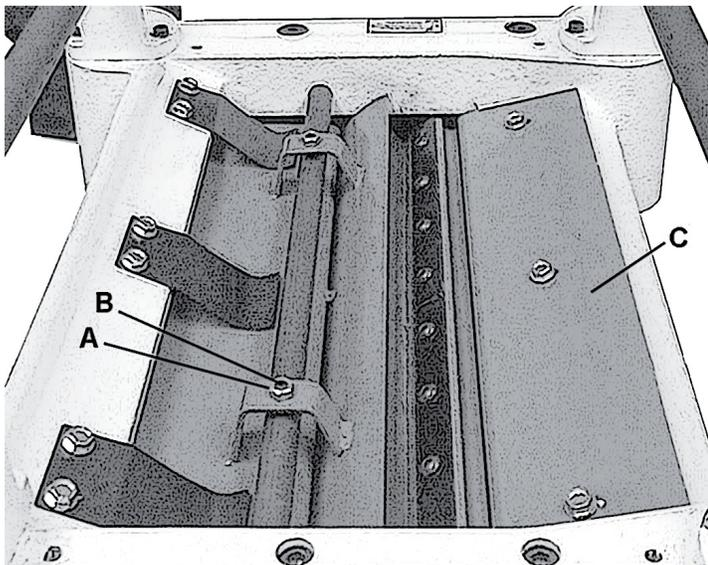

Figure 27
2. Loosen the lock nuts (A, Figure 27) at both ends of the chip breaker, and turn the set screws (B, Figure 27) to raise or lower the chip breaker as needed. The set screws should be turned the same amount.
- When the chip breaker contacts the gauge block, tighten both lock nuts (A, Figure 27).
The chip deflector (C, Figure 27) keeps wood chips from falling into the outfeed roller. The deflector should be set approximately 1/16" to 1/8" from the tip of the knives. Make sure the deflector is oriented so the bevel on its front edge matches the shape of the cutterhead.